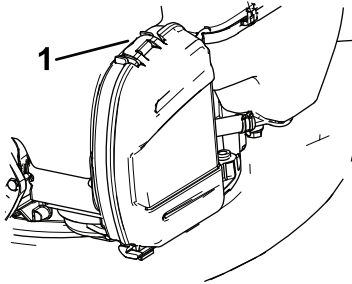

Figure 17
1. Pull the tab to open the air-filter cover (Figure 17).